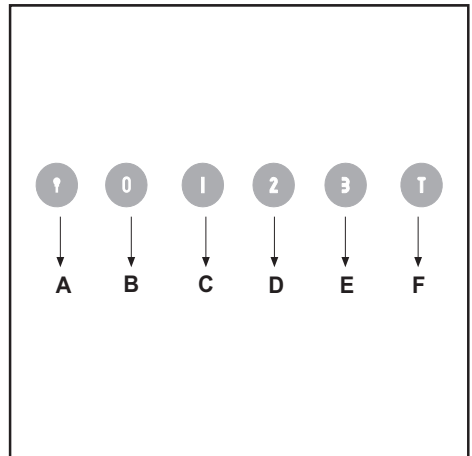

Fig.5
• **COMMANDS:** (Fig.5) **LUMINOUS** the key symbols are explained below: